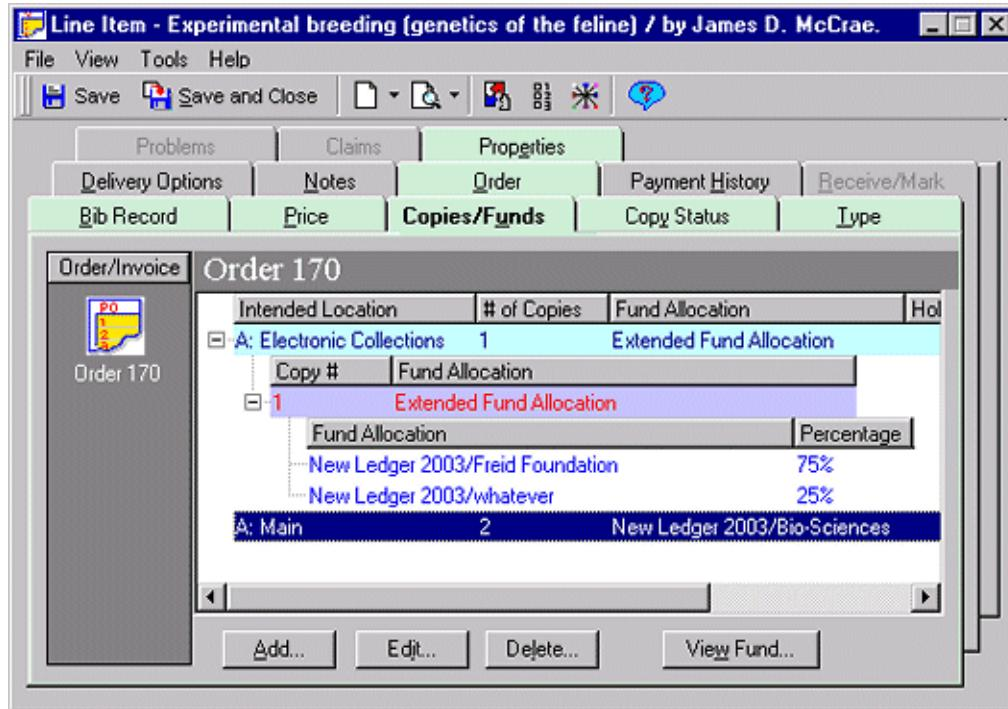

Figure 6-36. Copies/Funds tab, hierarchy
5. If your entries are complete and you will not be using the Extended Fund Allocation feature, click the **Close** button to return to the **Copies/Funds** tab of the **Line Item** dialog box (see Figure 6-36). Otherwise, continue with Procedure 6-13, Editing extended fund allocations or Procedure 6-14, Adding an extended fund allocation.
Result: The fund's allocation is changed. The **Copies and Funds** dialog box closes, and all copies and funds for the item display in a hierarchical structure on the **Copies/Funds** tab of the **Line Item** dialog box (see Figure 6-36).
Result: An extended fund allocation is added to a copy. The **Copies and Funds** dialog box closes, and all copies and funds for the item display in a hierarchical structure on the **Copies/Funds** tab of the **Line Item** dialog box (see Figure 6-36).
The copy and fund information displays in a hierarchical structure on the **Copies/Funds** tab (Figure 6-36) after fund allocations have been completed.